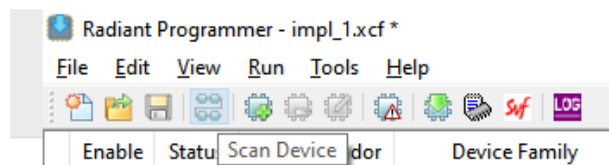

Figure 7.10. Scan Device Icon on Radiant Programmer
5. If the Device Family shows as Generic JTAG Device, click **Scan Device** as shown in Figure 7.10 to update the Device Family information automatically.